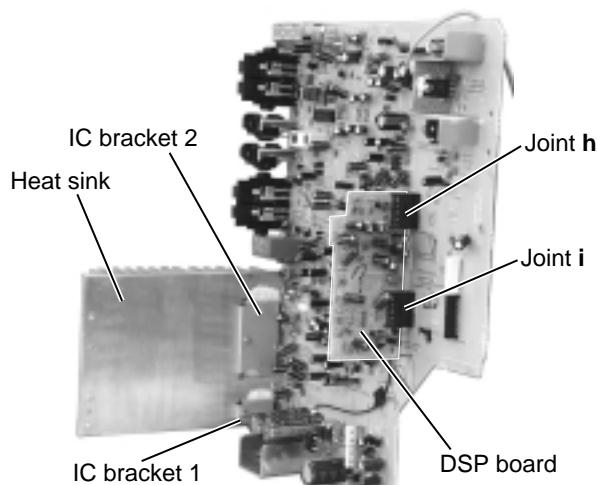

Fig.19
■ Removing the DSP board (See Fig.19)